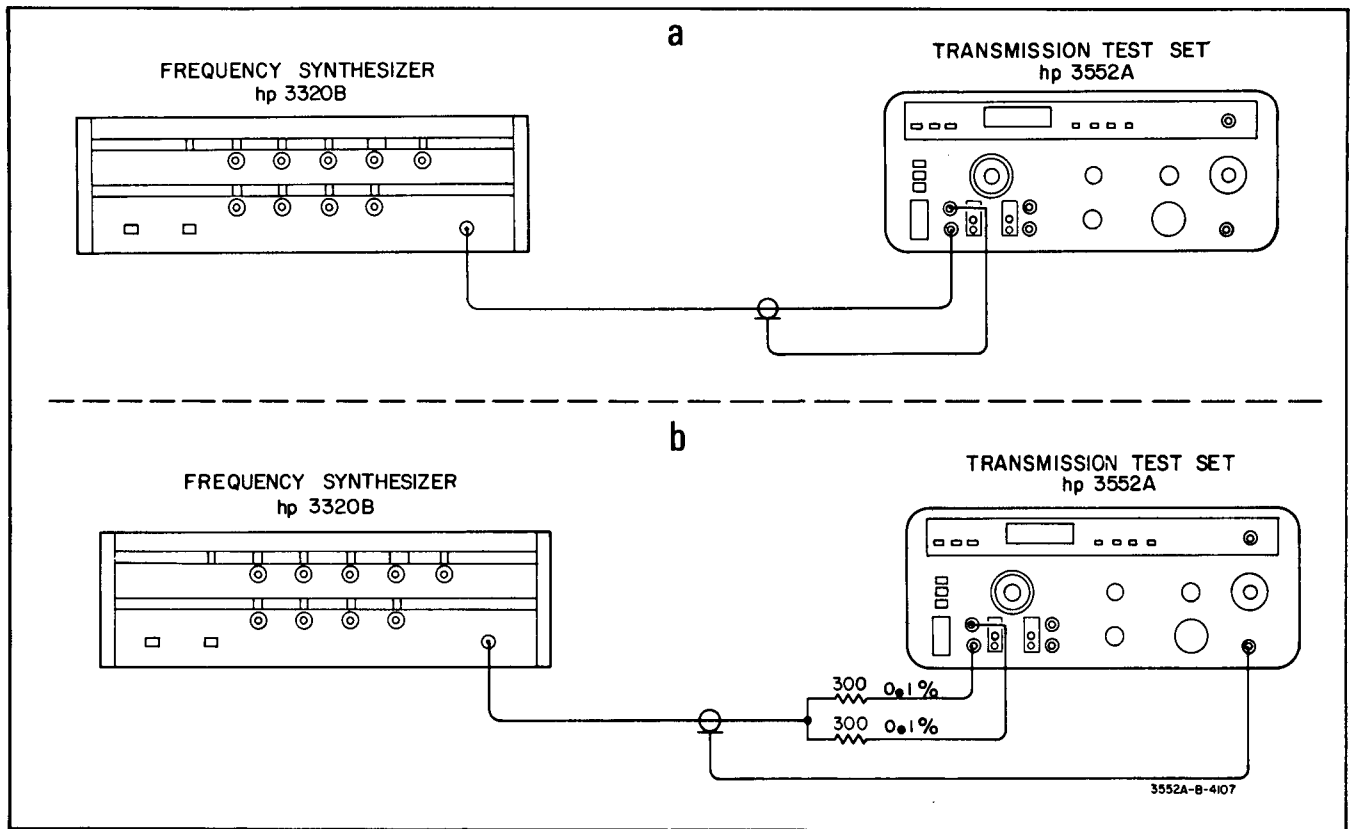

Figure 5-6(a,b). Receiver Balance Test Setup.
- a. Connect the equipment as shown in Figure 5-6(a).
d. Connect the test equipment as shown in Figure 5-6(b).